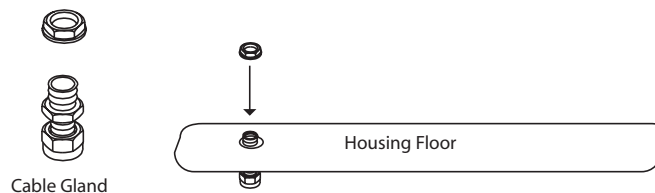

Figure 2-2 Cable Gland
4. Assemble and install the gland nut. The accessories kit provided with the CAM-3X2-E has four (4) such gland nuts. Note that there are two different sizes of the gland nuts: all have the same outer diameter, but two of the gland nuts have a larger bore diameter, to accommodate larger diameter cables. Select the gland nut appropriate for the cable being used, and install it according to Figure 2-2.